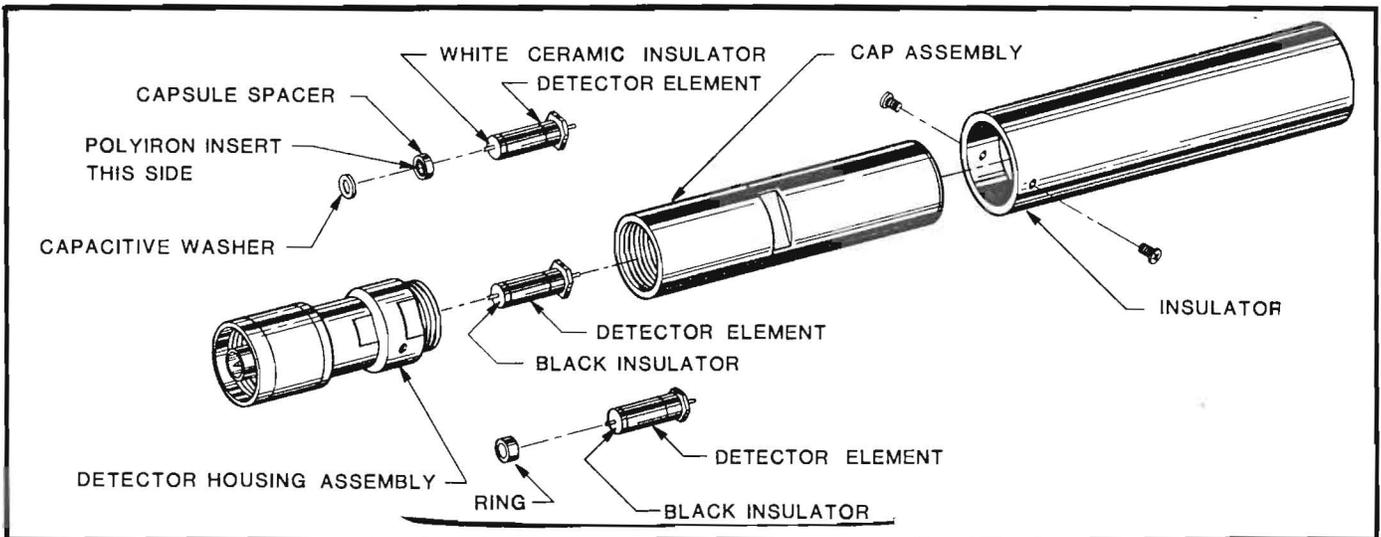

Figure 3. Element Replacement for Detectors Used With the Model 1045 Unit
- 1. Using Figure 3 on page 3 of this sheet as a guide, remove the two #2-56 screws from the sides of the insulator. Slide the insulator back.
- 4. Late model detectors have only the detector element; no spacer, washer, or ring. If your detector has no spacer, washer, or ring, then discard the ring from the kit and replace just the element as shown in Figure 3. Make sure that the components are correctly seated and pressed firmly into the detector.